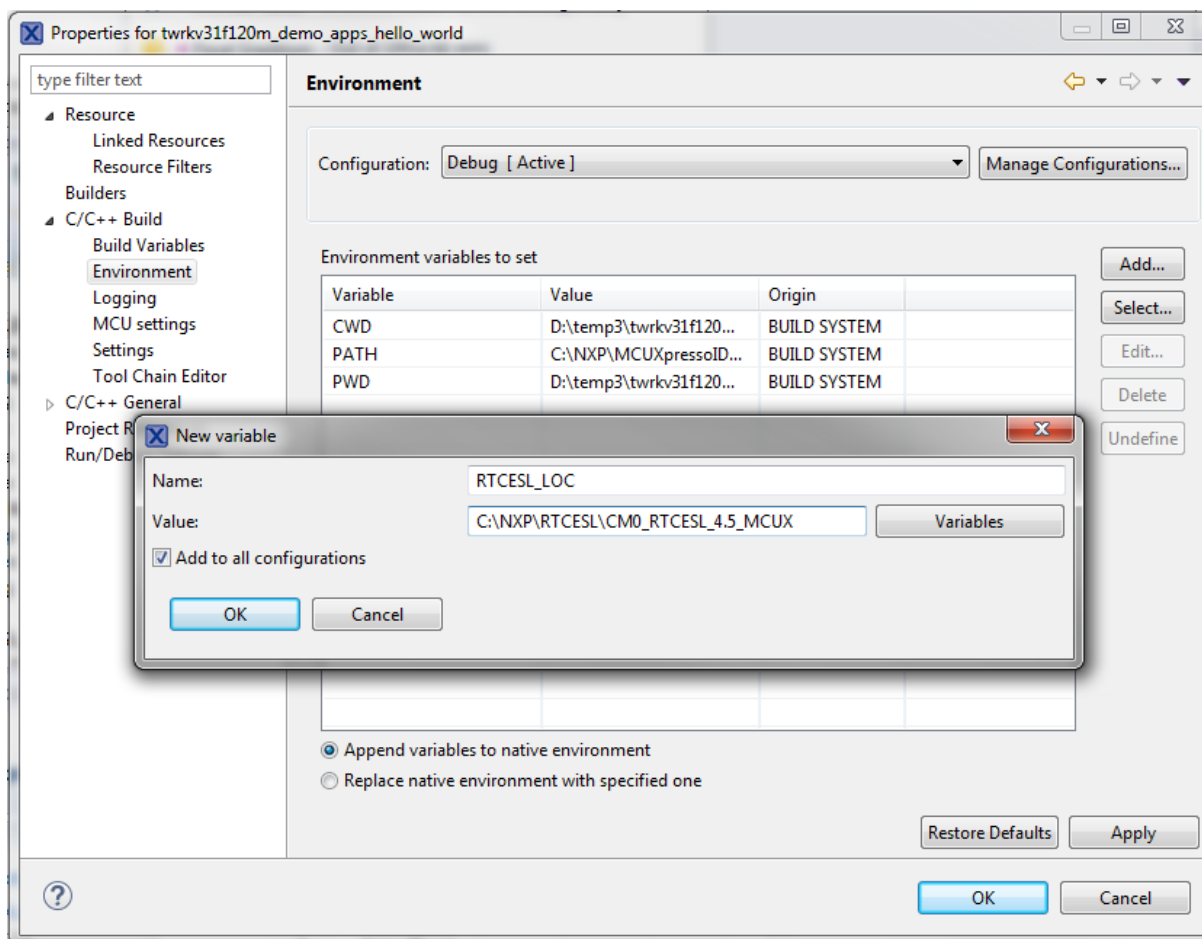

Figure 1-5. Environment variable
8. In the dialog that appears (see Figure 1-5), type this variable name into the Name box: RTCESEL_LOC.
10. Tick the Add to all configurations box to use this variable in all configurations. See Figure 1-5.